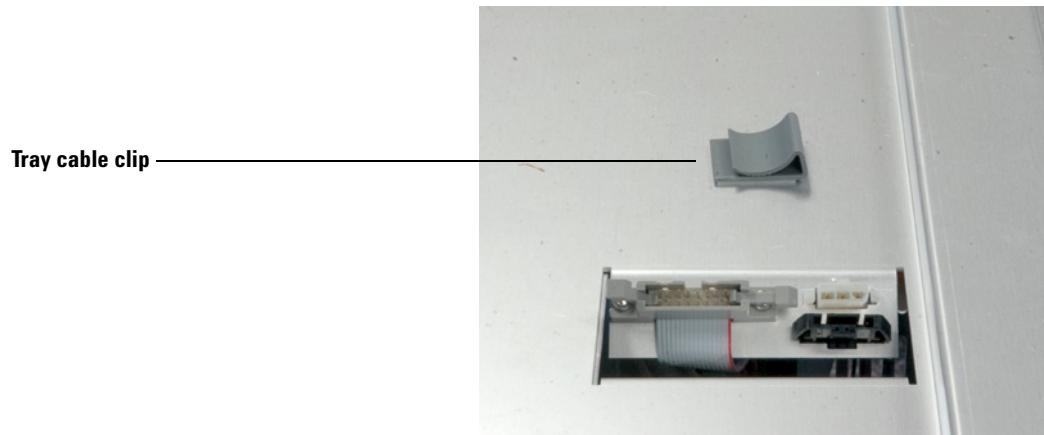

Figure 27 Tray cable clip
- 2 Slide the cables into the tray cable clip (Figure 27).